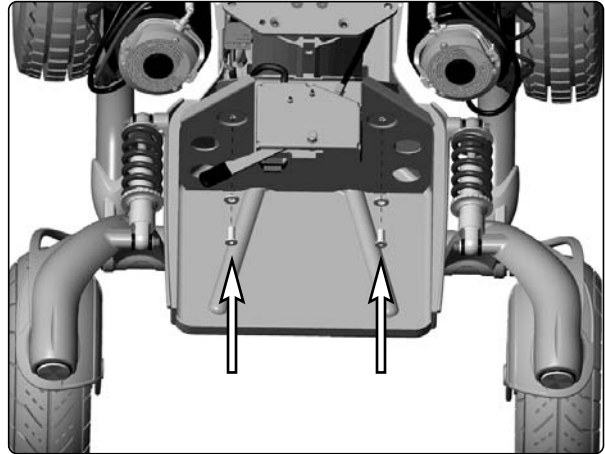

Fig. 55. Seat elevator's upper attachment screws.
3. Remove the seat elevator's upper bracket. It is attached with two screws; see figure 55.